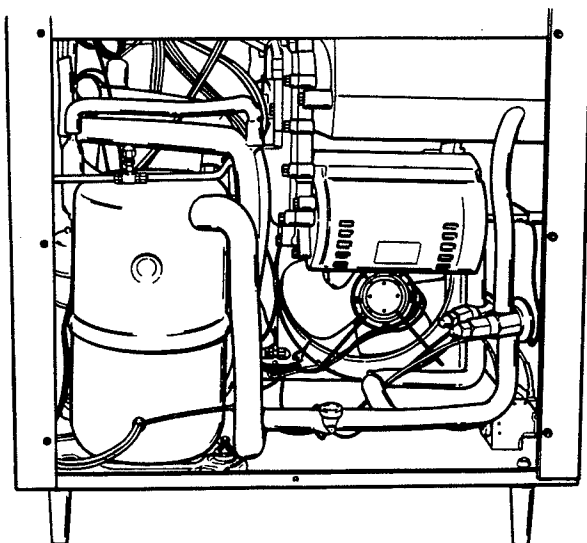

Figure 36. Panel Removed
1. Remove the Phillips head screw from the bottom of the left side panel and slide the panel down and out. (Fig. 36).